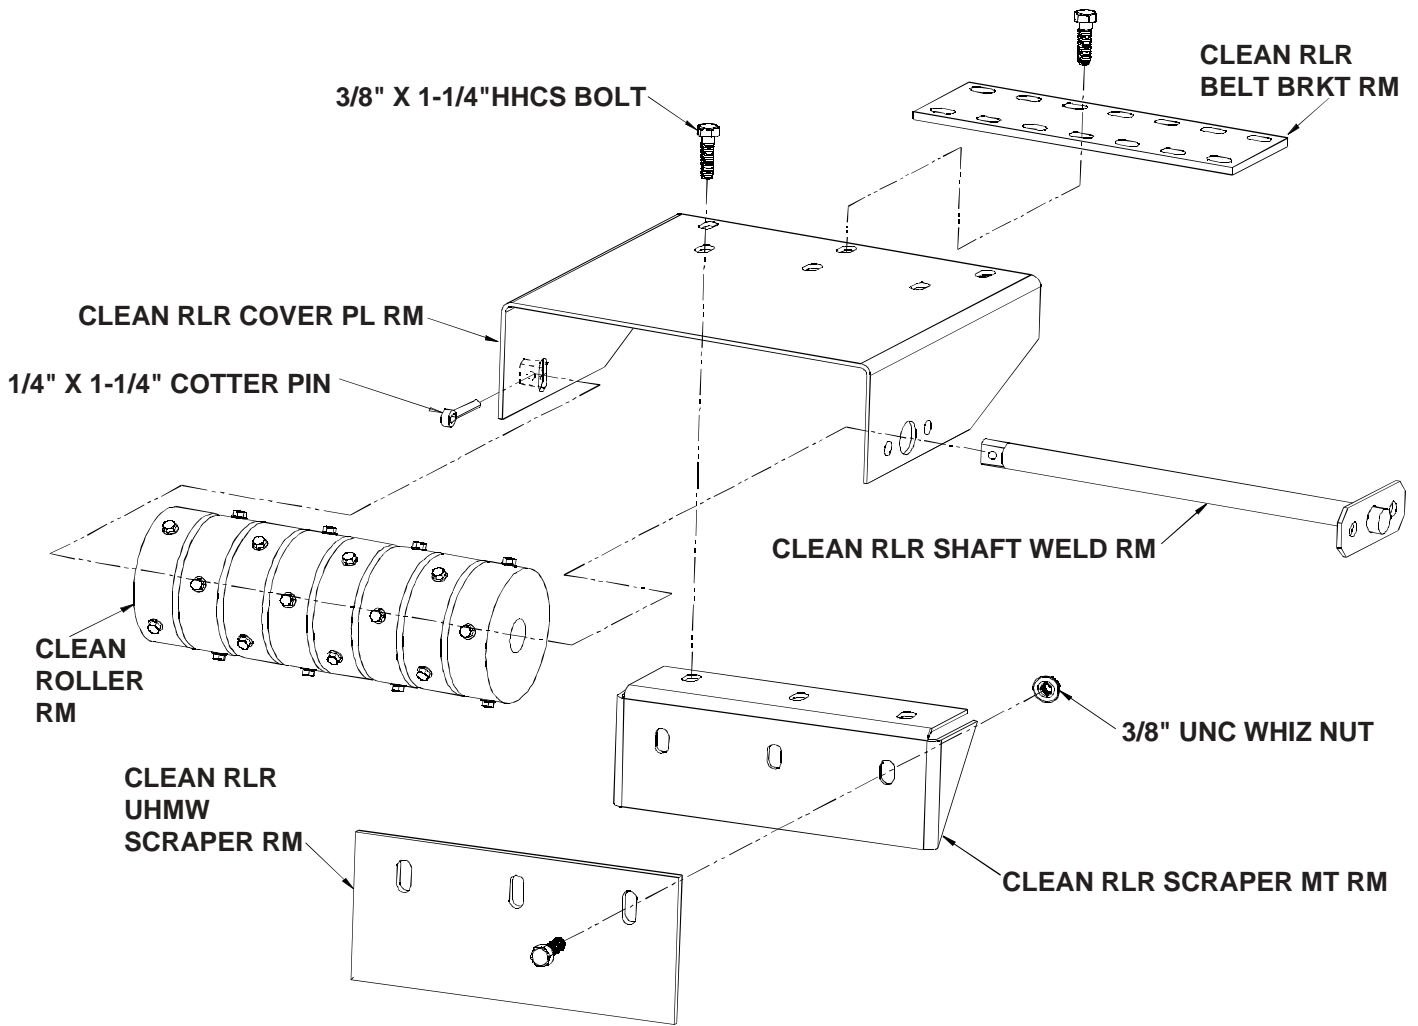

Fig. 9-5
18. Cleaning Rollers are assembled and installed next. The white **CLEAN RLR UHMW SCRAPER** bolts to the **CLEAN RLR SCRAPER MT** using 3/8" x 1-1/4" Gr. 5 Bolts and Flanged Nuts with the nuts on the plastic side. Bolt this sub assembly to the **CLEAN RLR COVER** using the same bolts. Adjustment to the Scraper angle is available in this connection. Set the Scraper for maximum angle and tighten the bolts. (See Figure 9-5)
19. Slide eight (8) UHMW CLEAN ROLLERS over a **CLEAN RLR SHAFT**. This shaft then slides into the round and slotted holes at the middle of the Roller Cover. Secure the shaft with 3/8" bolts and flanged nuts. Install the **CLEAN RLR BELT BRKT** to the top of the **CLEAN RLR COVER** using 3 each 3/8" x 1-1/4" GR5 bolts with flat washers. (Older versions used a combination of a bracket and hinge pin instead of a flexible connector.)